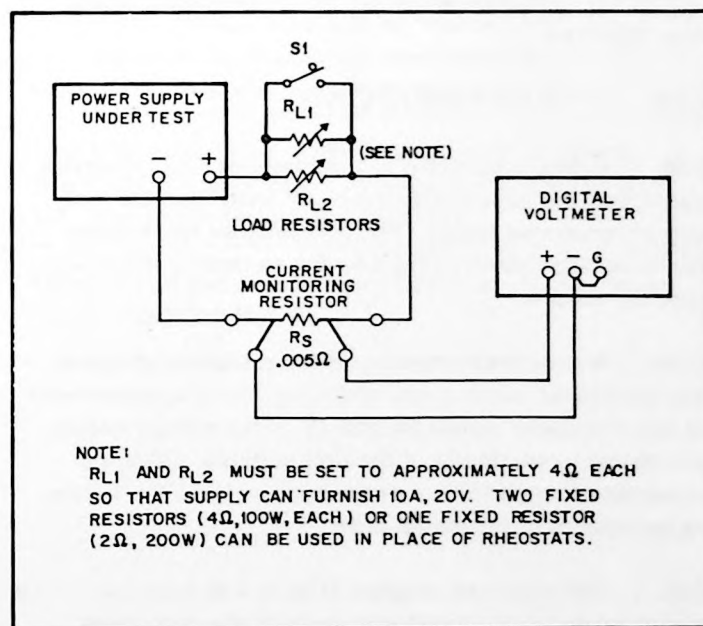

Figure 5-7. Constant Current Test Setup
- Connect test setup shown in Figure 5-7. Set R_{L1} and R_{L2} to maximum resistance.
- Connect test setup shown in Figure 5-7.